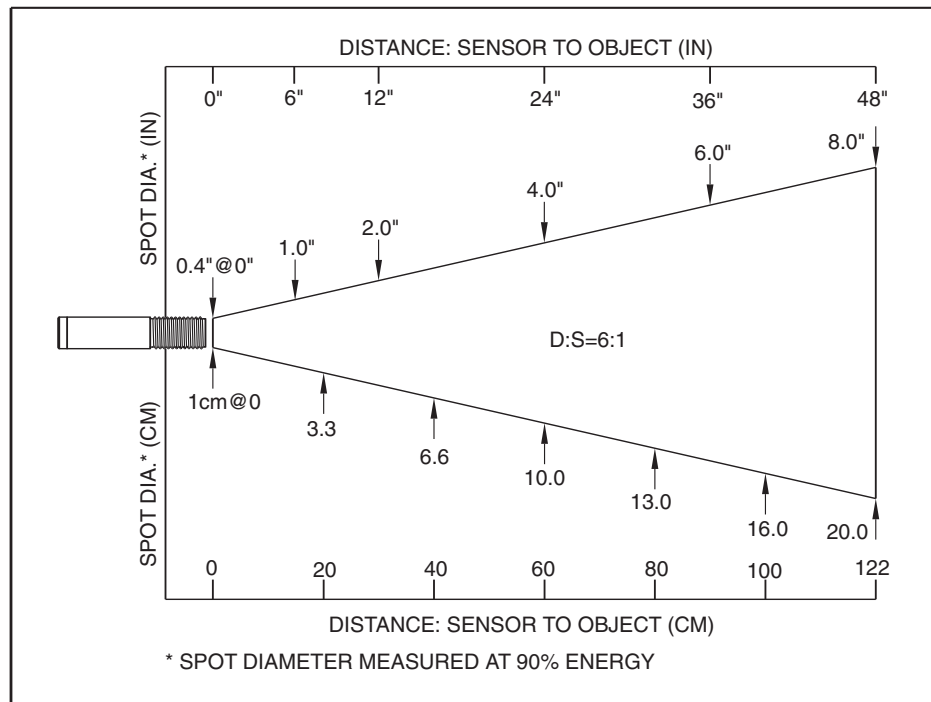

Figure 3-1. Optical Field of View
- ✓ The target is larger than the optical field of view of the transmitter (Fig 3-1)